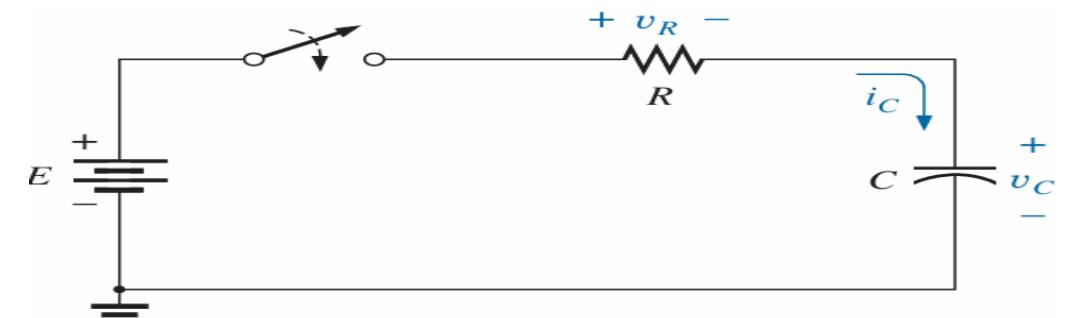

FIG. 26
- Since the resistor and the capacitor in Fig. 26 are in series, the current through the resistor is the same as that associated with the capacitor. The voltage across the resistor can be determined by using Ohm's law in the following manner: